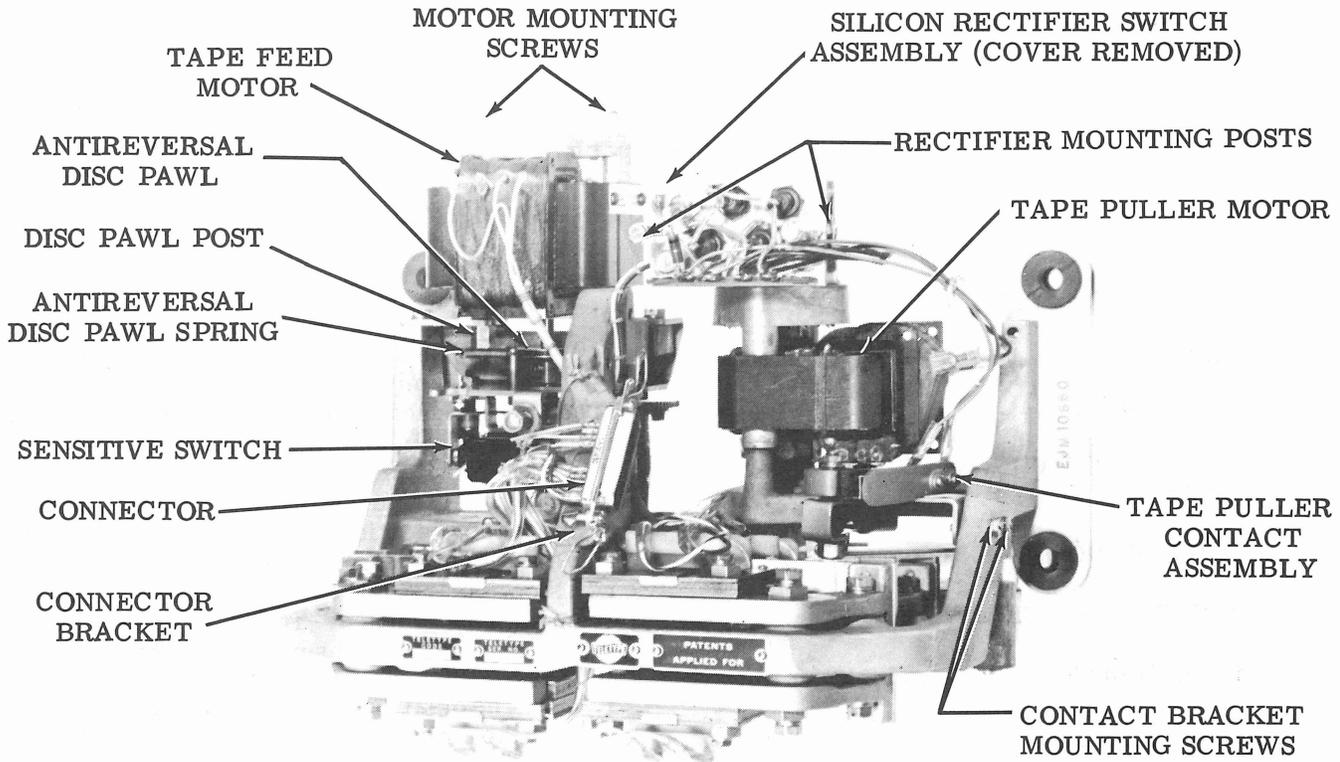

Figure 1 - Five-Level Punch Unit, Top View (2000 WPM).
### SILICON RECTIFIER SWITCH ASSEMBLY (Figure 1)
### CABLE AND CONNECTOR (Figure 1)
(Figures 1, 2, 3, and 5)
**TAPE FEED MOTOR (Figures 1 and 5)**
#### TAPE PULLER CONTACT ASSEMBLY (Figures 1, 5, and 6)